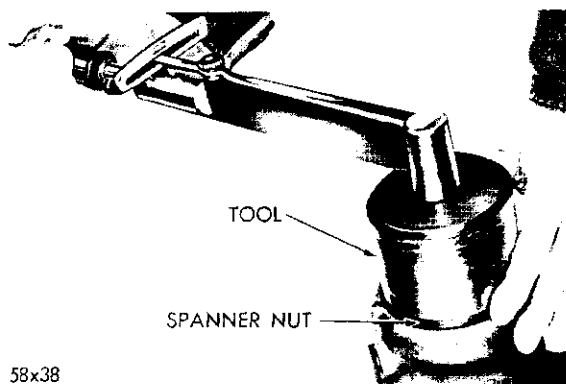

Fig. 33—Removing the Steering Column Support Nut
(8) Remove the steering jacket support nut with Tool C-3634 (Fig. 33).